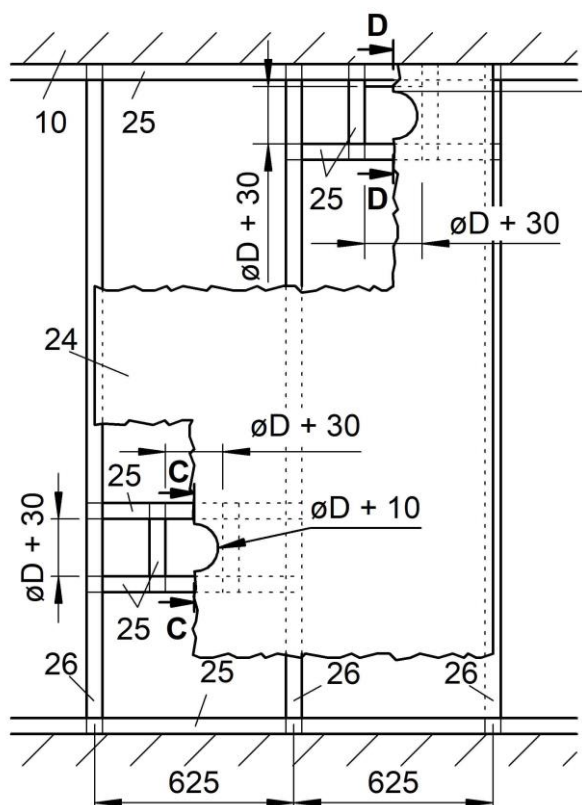
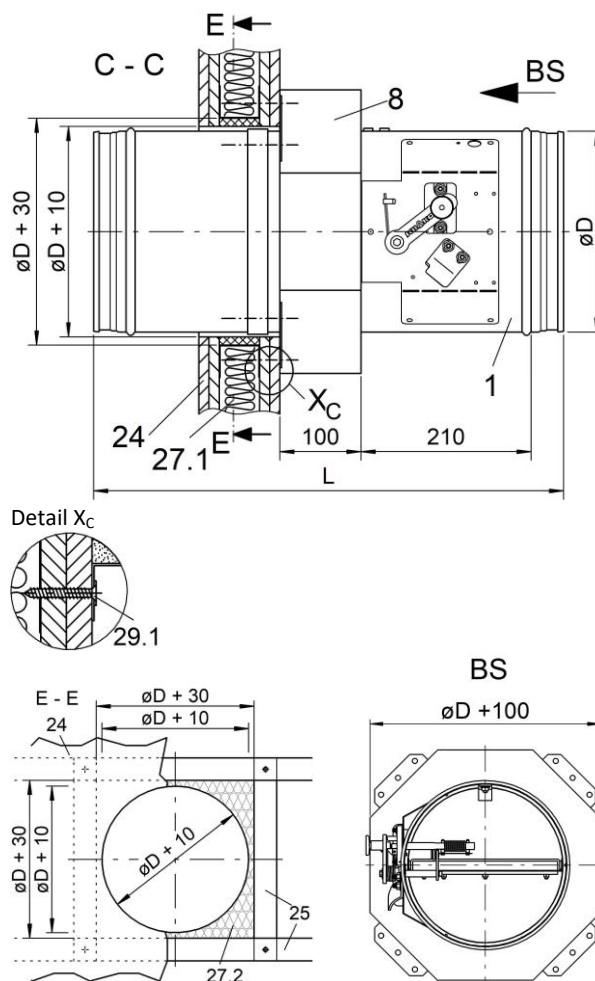

Figure 40: Metal stud frame plus required exchange parts for BSK-RPR with mounting frame AR (dry installation), during the assembly of the wall
Figure 41: Dry installation on lightweight partition wall with mounting frame AR, during the assembly of the wall
- Mount the metal stud frame, provide necessary metal post exchange parts (pos. 25) as shown on Figure 40 and Figure 41.
- Insert the mineral wool (of the wall), also in the area of the metal post exchange parts. If no mineral wool is to be used for the wall itself, mineral wool (pos. 27.2) must be inserted in the area of the exchange parts.
- Mount the wall panellings on both sides (pos. 24).
- Make the required circular recess in the centre of the circumferential metal post exchange parts (diameter: $\varnothing D + 10$ mm, see Figure 41/41).